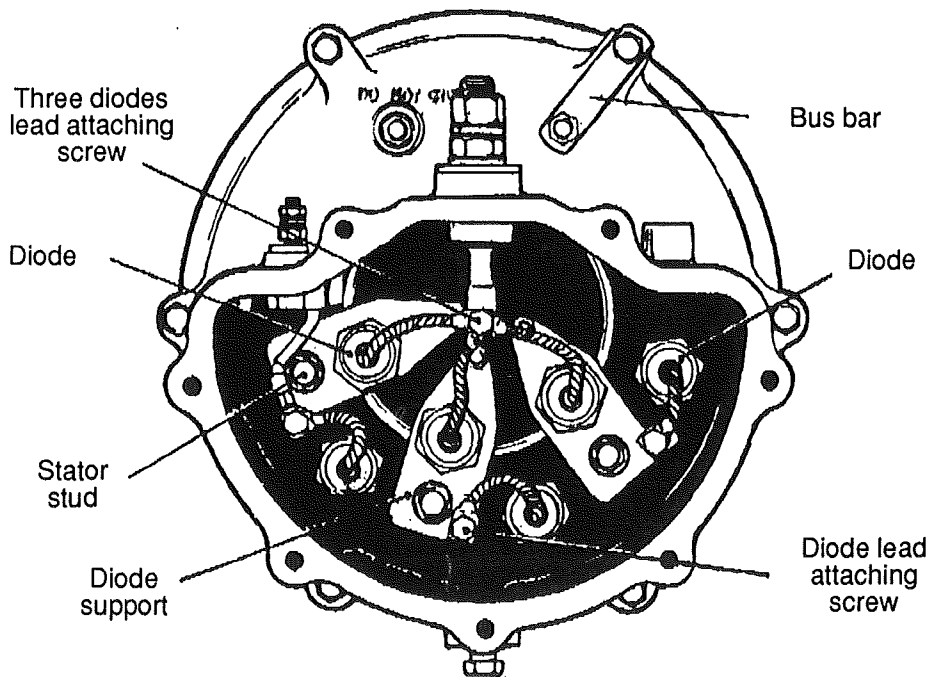

FIG. 22 - View of rectifier end frame with cover removed
3. Remove the cap screws (7) and lock washers which attach the diode end cover to the end housing. Remove the end cover from the end housing.
5. Disconnect all diode flexible leads, i.e. three from the output terminal stud and three from the diode supports. See figure 22 for more details.